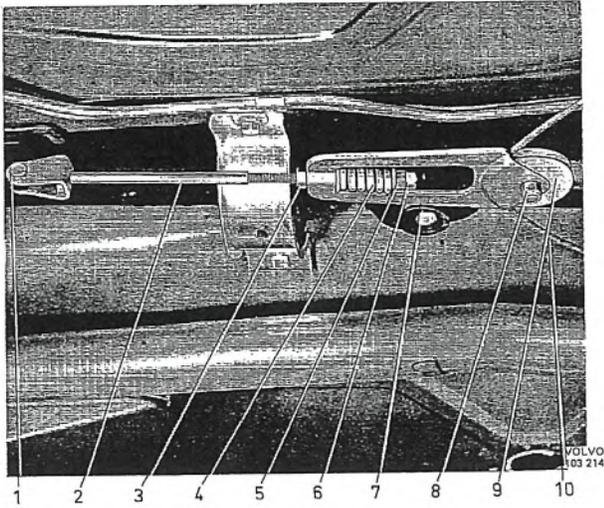

Fig. 5-82. Adjusting device cable
the cable should be tensioned. This is done by loosening the locknuts and screwing in the pulley on the pull rod, see Fig. 5-82. After adjusting, tighten the locknuts. Check that there is approximately the same braking effect on both rear wheels.
3. Remove the bolt (8, Fig. 5-82) and then the wheel (9) from the pulley (7).